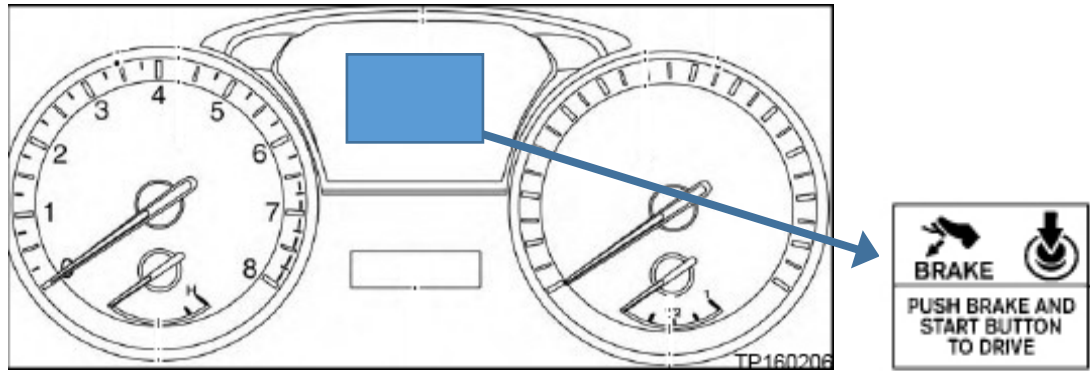

Figure 4
10. Confirm "PUSH BRAKE AND START BUTTON TO DRIVE" is displayed in the vehicle information display in the combination meter (see Figure 4).